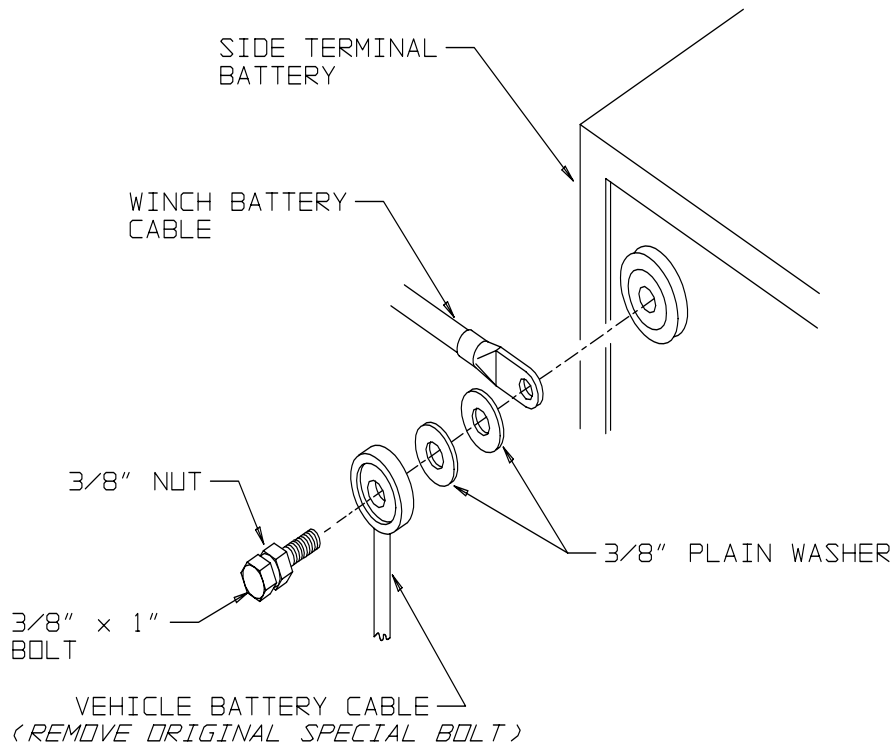

Figure 8
13. When connecting winch electrical cables to a GM side terminal battery, use the fasteners provided as shown in **Figure 8**.